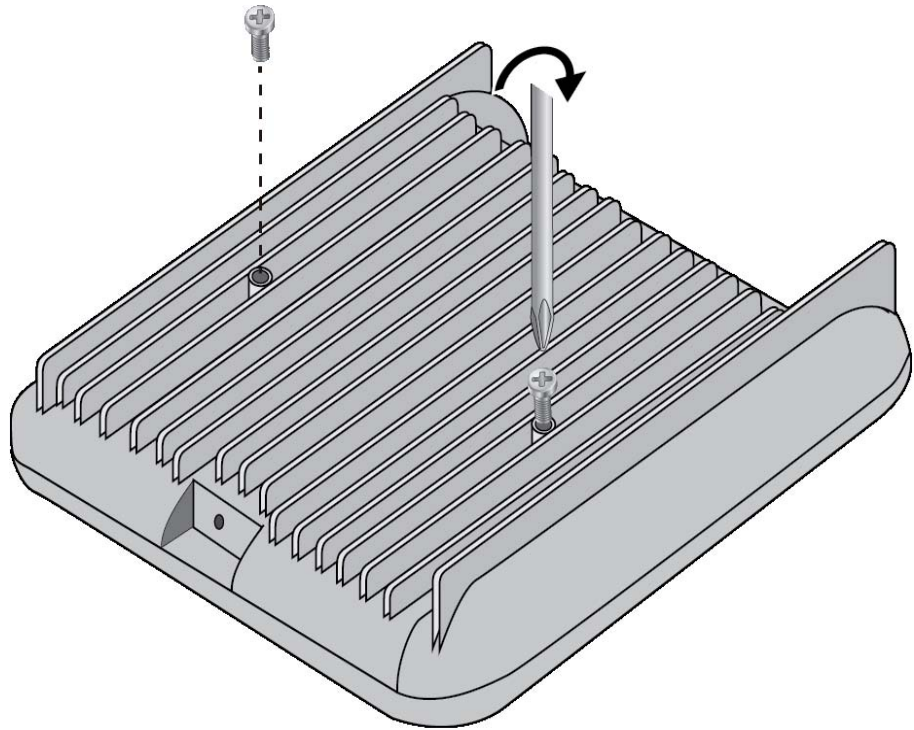

Figure 10. Installing the Bracket Screws
2. Install the two screws (provided) fully into the bottom panel of the access point. Refer to Figure 10 on page 45.